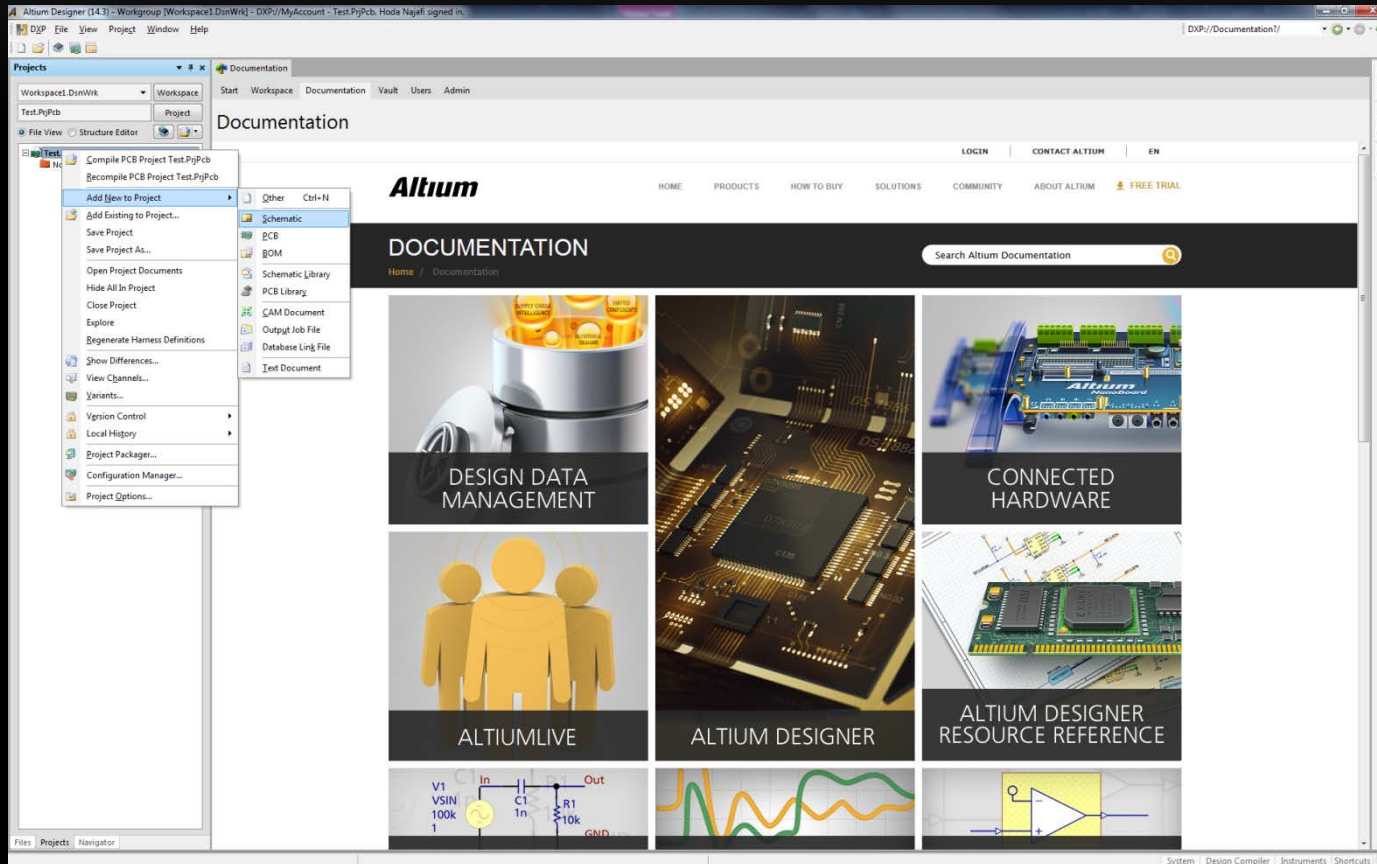

Figure 5
- a. Right click on the project > Add New to Project > Schematic (Figure 5)